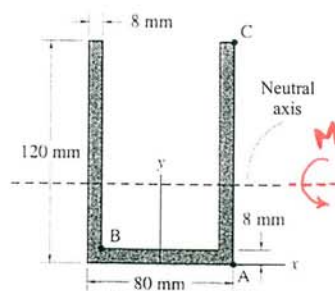

Figure 1
1. An aluminum alloy beam with the cross section shown in Figure 1 experiences positive bending by an applied moment M . The allowable stress is 150 MPa. Determine: